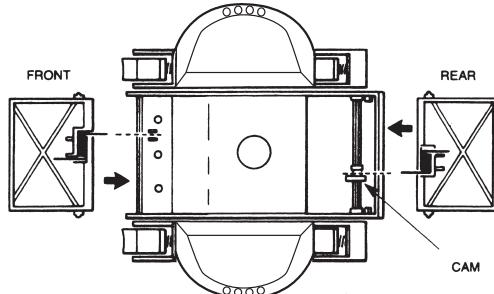

Figure 12
- b) You will notice that your replacement flaps look similar but are marked "Front" and "Rear" on the flap. **Because the springs in the flaps are different, it is absolutely necessary to install the proper flap in the front and rear of the unit.** Failure to do so will result in unsatisfactory performance of your Cleaner. When installing the front flap, be sure that the extended leg of the spring is inserted into the notch on the front of the lower body (*see Figure 12*). Push the flap in place. You will actually feel and hear a snap when the flap is in place. Fold the flap in towards the bottom of the Cleaner. You will feel some resistance at this point (that is normal). As the flap snaps into its normal position, you will feel the spring action and notice that the front flap is now in its normal operating position.
When installing the rear flap, the extended leg of the spring must fit against one of the flat surfaces of the cam (*see Figure 12*).